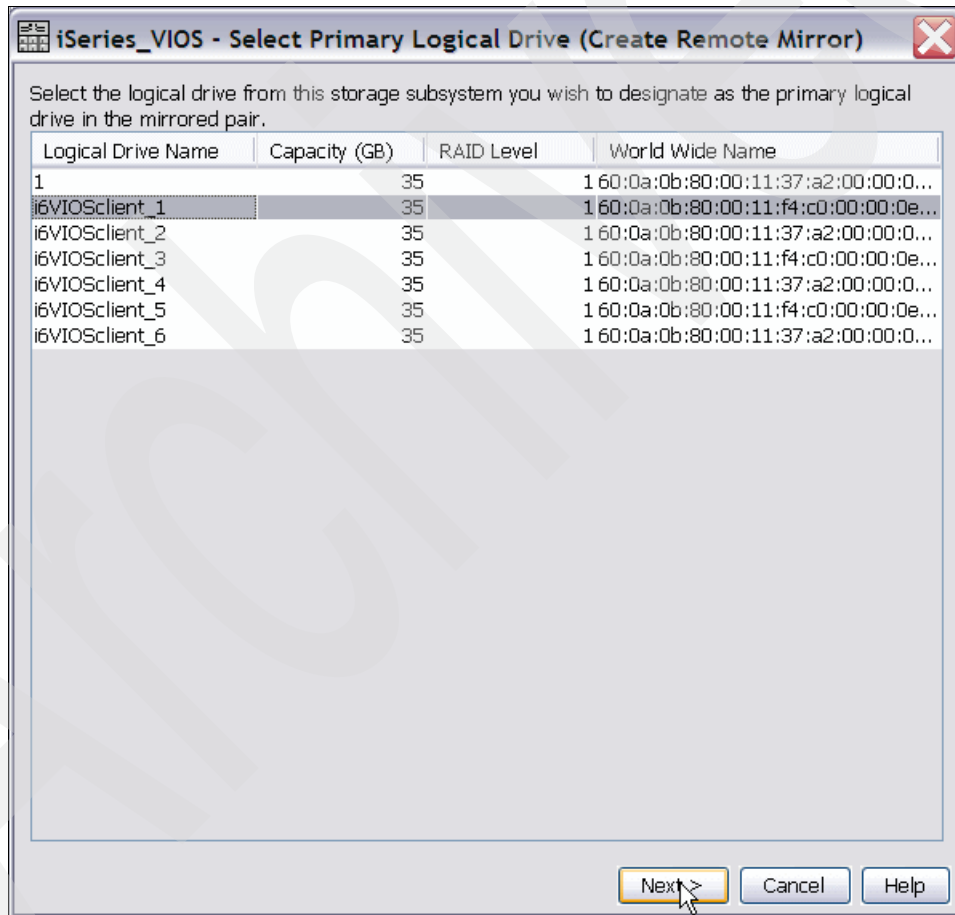

Figure 8-40 Select the logical drive for metro mirroring
12. Choose the logical drive for which you want to establish metro mirroring, as shown in Figure 8-40.